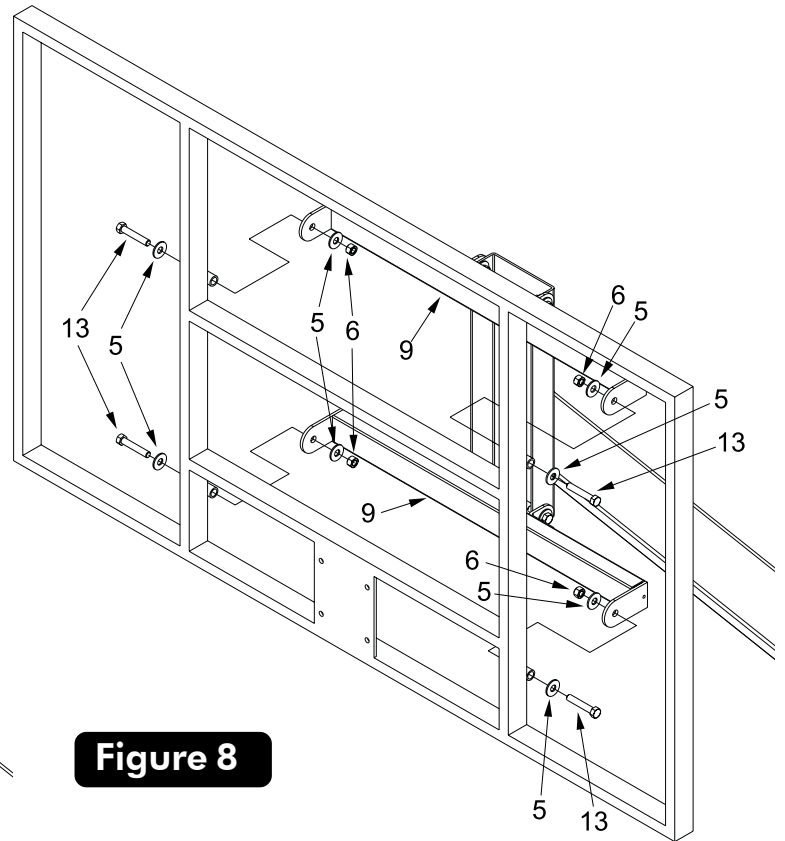

Figure 8
11. With at least three capable people, raise the backboard assembly up and have the fourth person attach lower Board Arm (#9) to lower mounting tubes on backboard using two bolts (#13), four Board Bushings (#14) (shipped already installed), four washers (#5) and two hex nuts (#6). See Figure 8. Tighten bolts tight.
12. Attach upper Board Arm (#9) to upper mounting tubes on backboard using two bolts (#13), four Board Bushings (#14) (shipped already installed), four washers (#5) and two hex nuts (#6). See Figure 8. Tighten bolts tight.